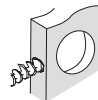

Figure 3b
- Drill 1" (25mm) hole in center of door edge for Latch (Figure 3b).